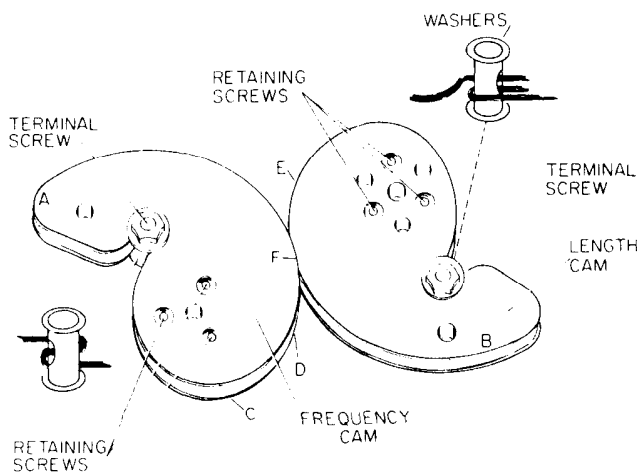

Figure 5-12. Cam Assembly
5-53. If it is necessary to replace cam cable, order it by HP Part No. 08614-299 and description of usage. For easier access to the cams, remove the screws holding the High Voltage circuit board and swing the board out of the way. Use Figures 5-12 and 5-13 as guides and proceed as follows:
- c. Turn FREQUENCY (MC) to approximately the middle of the frequency band.
- d. Orient Length Cam to Frequency Cam as shown in Figure 5-12.
k. Slide cable through one terminal screw so that cable is oriented to terminal screw as shown in Figure 5-12 for the Frequency Cam, and install terminal screws on Frequency Cam.
Each cam as shown in Figure 5-12 has two lips along which the cable should travel: one cable MUST travel along the upper lip of both cams and one cable must travel along the lower lip of both cams.
t. Slide cable ends through second terminal screw so that cable is oriented to terminal screw as shown in Figure 5-12 for the Length Cam.